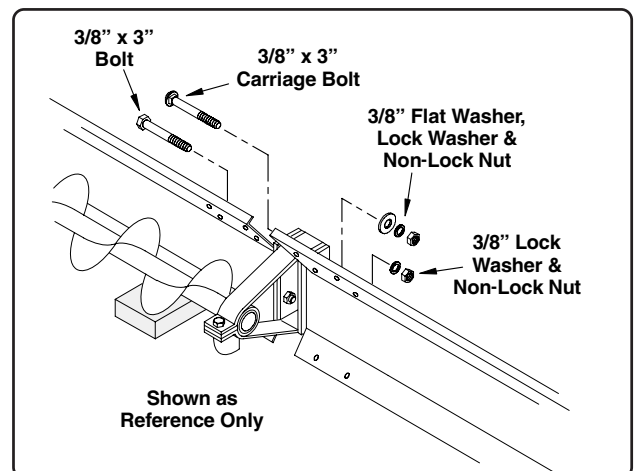

Fig. 13
3. Support the flight and shield with a wood block or similar item. Position a bearing stand assembly at the end of the shield and install the next section of sweep shield (the bearing stand will be sandwiched between the shields, See Fig. 13).